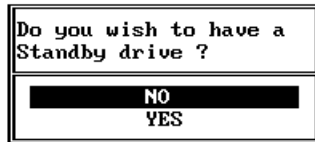

Figure 2-13. Deciding Whether to Reserve a Standby Drive
- Next, select whether you wish to reserve one available, unconfigured drive to be used as a standby (hot spare) drive (Figure 2-13).